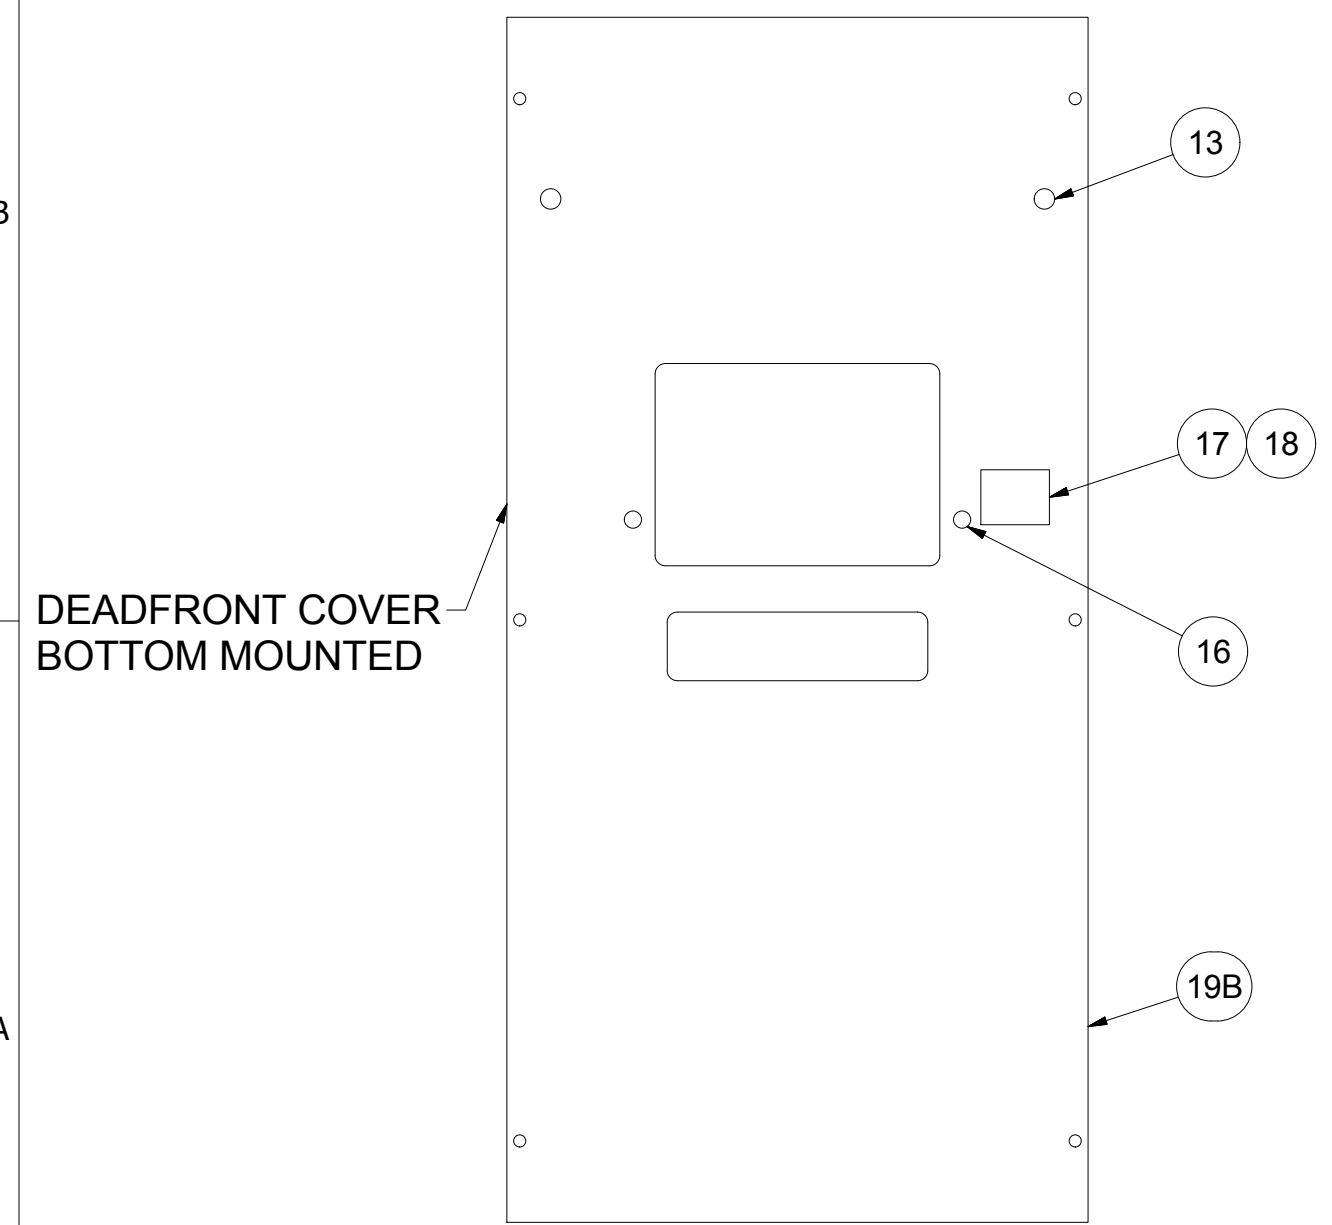

FIGURE 4
- b. See Sheet 6 - Figure 4 (Top Mounted) or Figure 5 (Bottom Mounted) for appropriate deadfront cover arrangement. When applicable, remove and relocate the Branch cover, the 5" Blank cover, and the End covers to achieve correct deadfront cover arrangement.
- c. Install newly provided 22" Main cover (item 19A or 19B per the application) into proper location on deadfront cover assembly (see Figure 4 or Figure 5 as appropriate). Insert small plastic snap rivets (item 16) and large plastic rivets (item 13) into holes located on newly provided 22" Main cover (see Figure 3 on sheet 6).